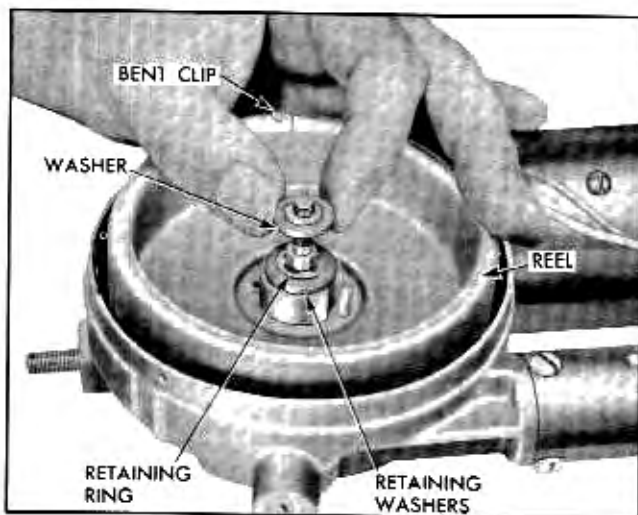

Fig. 14-4 Casco Reel and Retainer
5. Remove washer from center shaft (Fig. 14-4).
6. Remove reel retaining ring and washers from center shaft (Fig. 14-4).
8. Remove nylon reed (cord) by straightening the bent clip and disengaging it from slot in reel (Fig. 14-4). Remove clip from reel.
14. Attach clip to reel by inserting tab through the slot and bending it flat against the outside of the reel (Fig. 14-4).
16. Place retaining washers over shaft against reel and install retaining ring (Fig. 14-4).
18. Replace the special washer on the shaft with the shoulder up (Fig. 14-4).